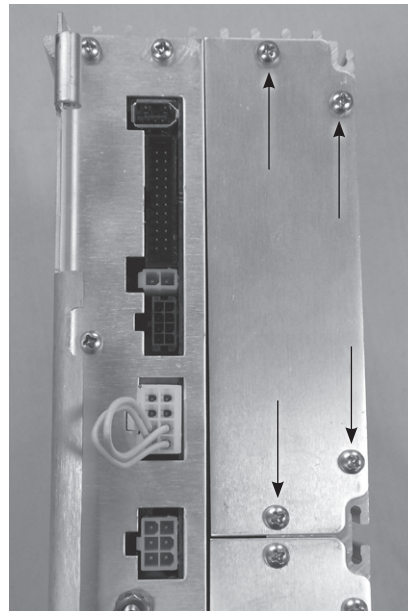

Figure 1. Remove screws shown to open the cover of the communications module slots
2. Remove the four screws retaining the cover over the communications module slots. Retain the screws. See Figures 1 and 2.